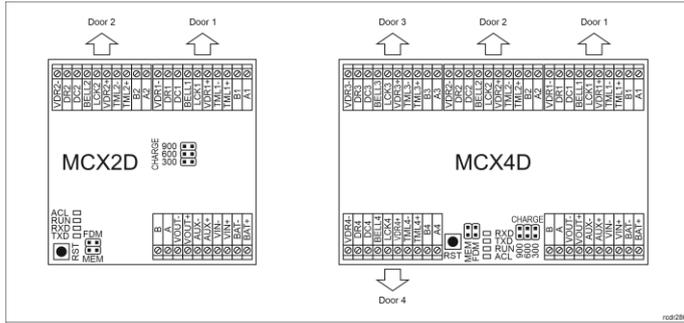
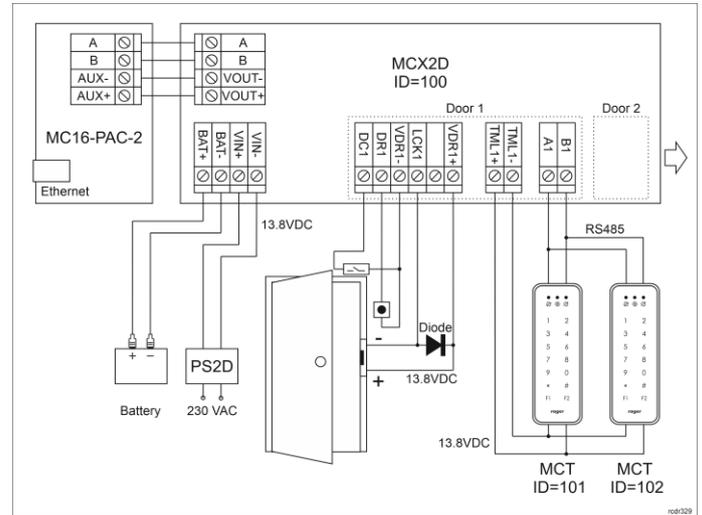

Fig. 3 MCX2D and MCX4D expanders
Fig. 4 Connection of readers and expanders to MC16 access controller
Note: Remote configuration of device from VISO v2 software is possible only if jumper is placed on MEM contacts (fig. 3). If the jumper is removed then such configuration is blocked. In case of factory new device, jumper is placed on MEM contacts.
In RACS 5 v2 system the expander can be installed at site without previous configuration. According to AN006 application note, its address and other settings can be configured from VISO v2 management software and during such configuration the access to its service contacts (fig. 3) is not required.
2. Remove jumper from MEM contacts (fig. 3) if it is placed there.
According to fig. 4 the expander charges backup battery. Table 2 includes current values which ensure 80% battery charging within 24 hours (according to EN-60839 standard). The charging current is selected by means of jumpers on expander board (fig. 3).
2. Place jumper on FDM contacts (fig. 3).
- In case of MCX4D the connection diagram is similar to the one shown in fig. 4 with the exception of MC16-PAC-4 controller, PS4D power supply unit and up to four doors control.